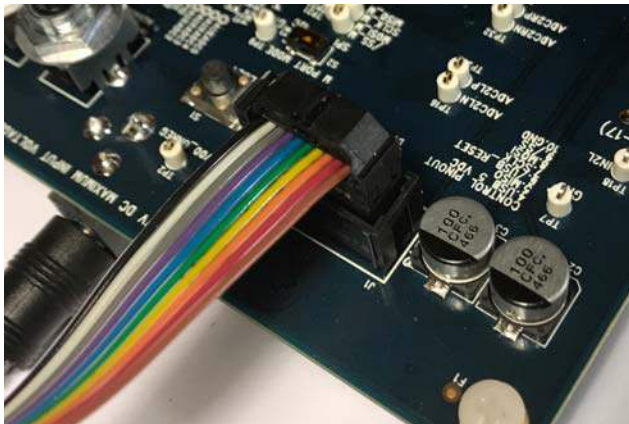

Figure 10. Connecting the **USBi** to the Serial Peripheral Interface (SPI) Control Port Header
4. Connect the ribbon cable of the **USBi** to the control port of the EVAL-ADAU1466Z (see Figure 10). The **USBi** must already be connected to the USB 2.0 port of the computer.